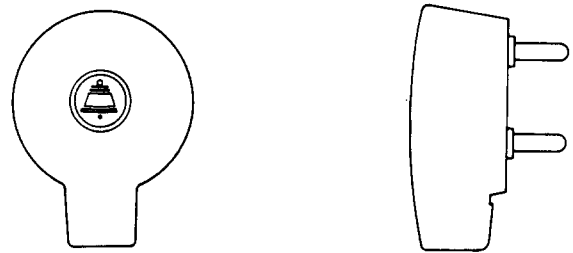

Fig. 6—505A-49 or -50 Plug
2.05 505A-49 and -50: The 505A-49 and -50 plugs (Fig. 6) consist of a block of insulating material containing four terminals and a removable cap. The 505A-49 and -50 plugs mate with the 404B, 493A, 497A, 548A, or 550A jacks in one position only. The 505A-49 and -50 plugs are used with portable telephone sets having two-, three-, and four-conductor mounting cords.